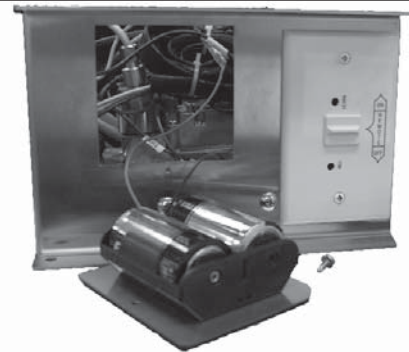

**Fig. 13-3**
To access the "AA" battery pack, unscrew and remove the two (2) retaining screws on the control system. Pull out the control system and then slide open the battery pack lid as shown in Fig. 13-3. Replace the old batteries with four (4) new "AA" batteries. Resecure the battery pack lid and return the control system into the control panel. Screw in the two (2) retaining screws.